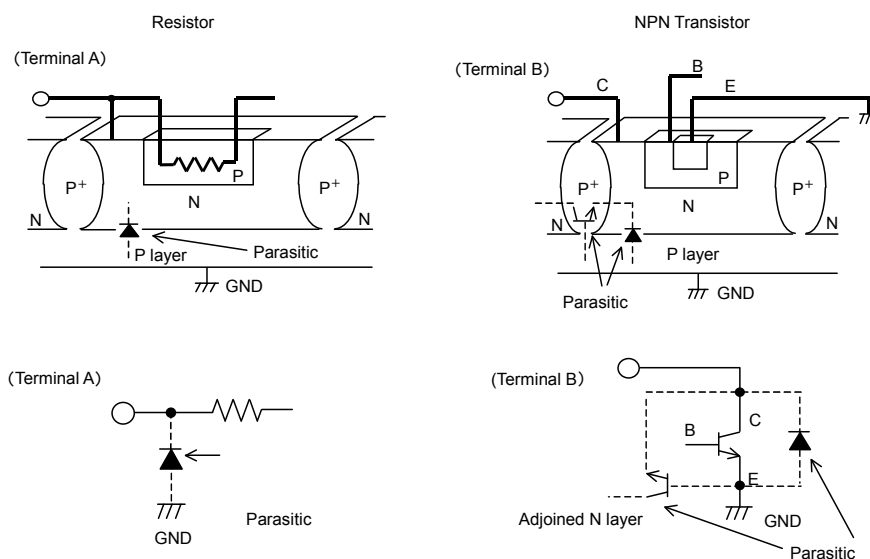

Fig.18 Bipolar Transistor
9. This IC is a Monolithic IC which has P+ isolation in the P substrate. A P-N junction is formed from this P layer and the N layer produces various types of parasitic devices. Fig. 18 shows parasitic devices around resistor and NPN transistor. f lower voltages than GND level are applied for A and B terminals, parasitic Di (P-N junction) would ON in both resistor and NPN transistor examples.